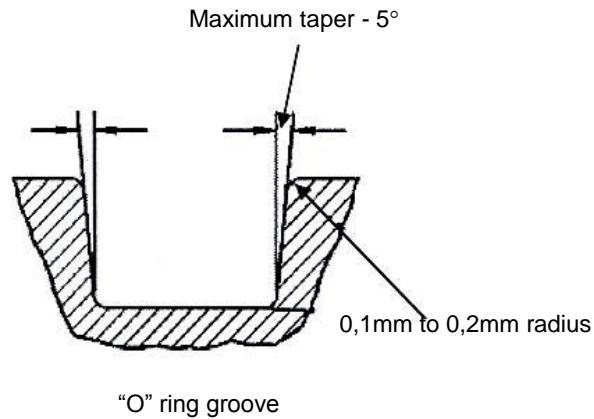

**FIG 7.**
- Fig 7 shows the **lead-in chamfer application**. This must be machined on the shaft or in the housing to allow the parts to be assembled without causing damage to the "O" ring.